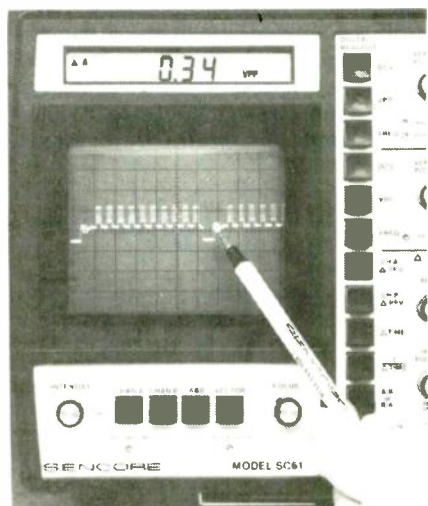

FIG. 2—PERFORMING A DELTA PEAK-TO-PEAK measurement confirms that the color burst of a composite video signal has the correct amplitude.
**(5) Delta amplitude:** The peak-to-peak voltage test covered earlier measured the total amplitude from the signal's lowest to its highest points. But many signals have additional signals buried within them. For example, an incorrect color-burst level on a composite video waveform (see Fig. 2) may cause color